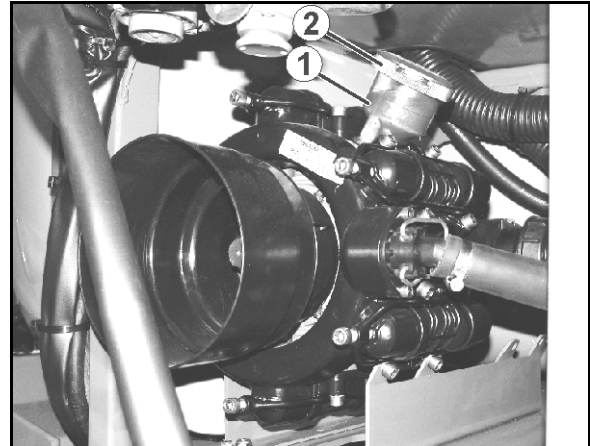

Fig. 173
- At least once a year, check that the piston diaphragm (Fig. 173/8) is in perfect condition by removing it.
- Pay attention to the respective installation positions of the valves on the suction and pressure sides before removing the valve groups (Fig. 173/5).
- As a rule, replace all piston diaphragms (Fig. 173/8), even if only one piston diaphragm distorted, punctured or porous.
2. Release the screws (Fig. 173/1) and remove the tensioning clamp (Fig. 173/2).
3. Remove the suction and pressure ports (Fig. 173/3, Fig. 173/4) including the valve groups (Fig. 173/5).
4. After removing the screws (Fig. 173/6), remove the cylinder head (Fig. 173/7).
5. Check the piston diaphragm (Fig. 173/8).
- Secure the piston diaphragm (Fig. 173/8) with a washer disc and a screw (Fig. 173/11) on the piston (Fig. 173/9), so that the rim shows on the cylinder head side (Fig. 173/7).
- Always tighten the nuts (Fig. 173/1,2) in a crosswise fashion using the specified torque. Improper tightening of the screws causes warping, which results in leaks.
1. Undo the screw (Fig. 173/11) and remove the piston diaphragm (Fig. 173/8) and the washer disc from the piston (Fig. 173/9).
3. Remove the hydraulic cylinder (Fig. 173/10) from the pump housing.
6. Insert the cylinder (Fig. 173/10) back into the pump housing.
7. Fit the piston diaphragm (Fig. 173/8).
8. Mount the cylinder head (Fig. 173/7) on the pump housing and tighten the screws (Fig. 173/6) an equal amount in a crosswise fashion.
9. After testing and cleaning, fit the valve groups (Fig. 173/5).
11. Mount the suction (Fig. 173/3) and pressure port (Fig. 173/4) on the pump housing.
12. Tighten the nuts (Fig. 173/1,2) in a crosswise fashion using a torque of **11 Nm**.